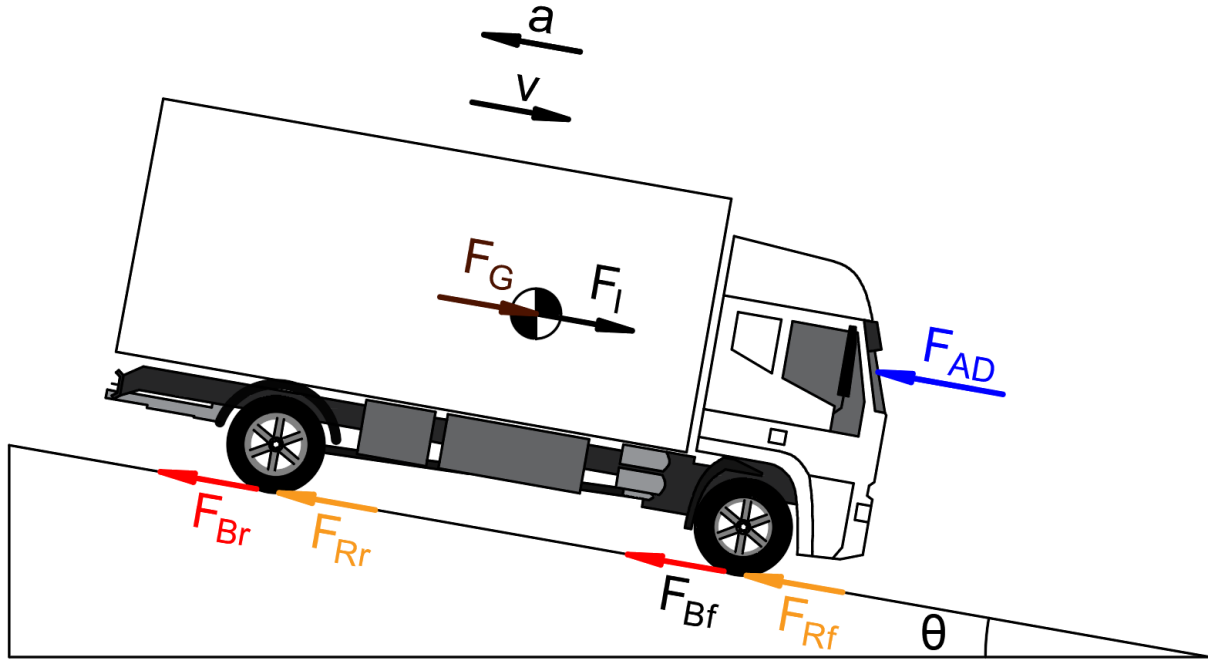

Figure 1: FBD of a decelerating truck on a downhill road.
Figure 1 shows the FBD (Free body diagram) of a decelerating truck, whose deceleration is a and speed is v , on a downhill road. The forces acting on the truck on its **longitudinal** axis are named, described and formulated in Table 1.
a) (10 pts.) Using the FBD in Figure 1, calculate the necessary braking force to keep the truck's speed constant at v_0 during the motion.
c) (25 pts.) Solve the heat equation given in (6) **analytically** for T and plot brake disc temperatures of the front and rear axles with respect to time on the same graph.
d) (30 pts.) Solve the heat equation given in (6) using the classical (4th order) **Runge-Kutta** method. Plot brake disc temperatures of the front and rear axles with respect to time on the same graph.